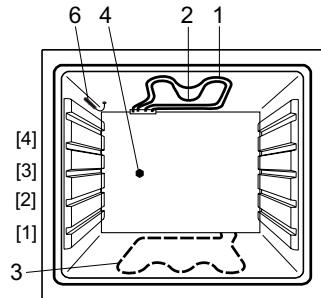

Fig. 14
- Installed in the upper part of every oven there are upper heater 1, grill heater 2, and beneath the floor there is, invisible, lower heater 3 (fig. 14). Grill drive connection 4 is located on the rear wall.